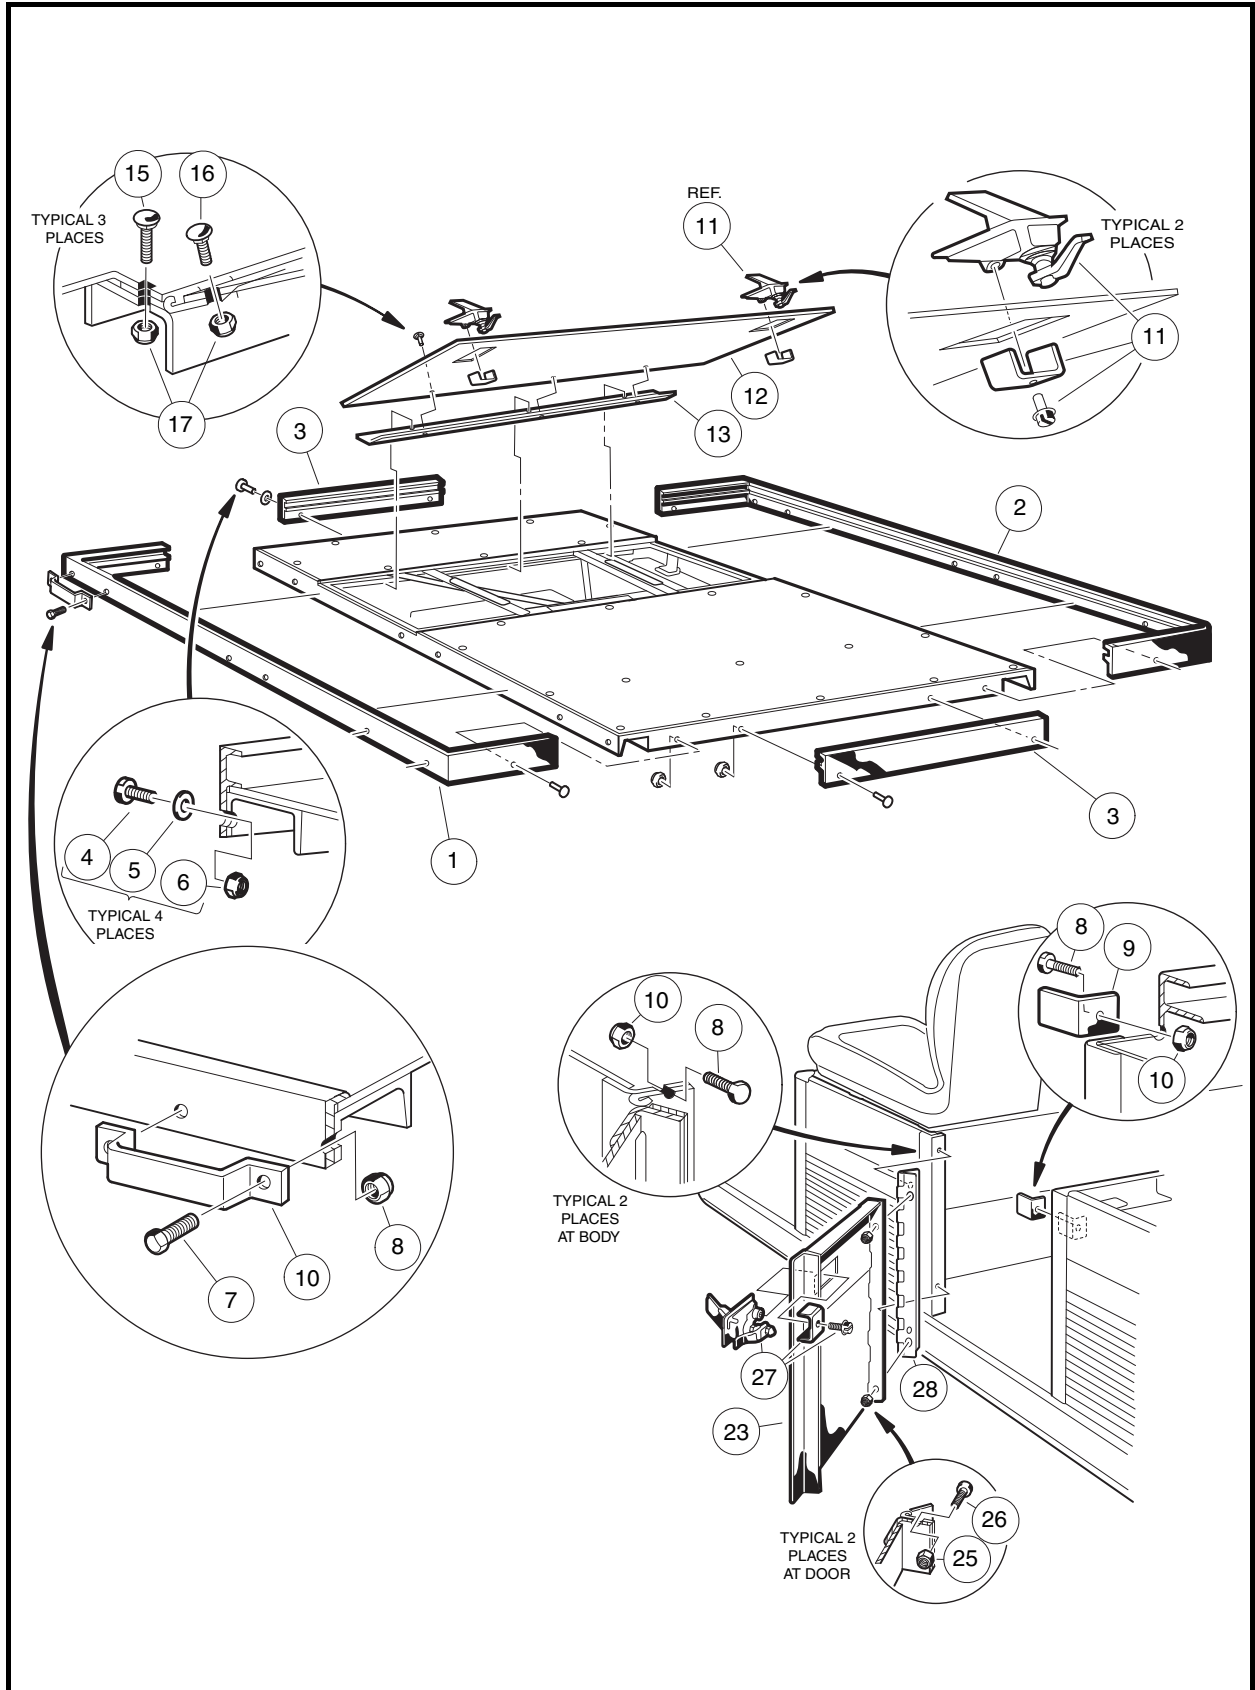

Figure 4-5 Flat Bed Trim, Access Door, and Side Door – Turf 6 and Carryall 6 (with Side Doors)
1. Release access door latches (11) and open access door (12) (**Figure 4-5, Page 4-11**).
4. Remove four bolts (4), flat washers (5), and lock nuts (6) from trim strips (3) on front and rear edge of bed. Remove trim strips from bed.
5. Remove two bolts (7) and lock nuts (8) from the bracket (10) on driver-side trim strip (1). Remove bracket from bed.
2. Tighten bolts (4 and 7) to 8 ft-lb. (10.8 N·m) (**Figure 4-5, Page 4-11**).
1. Raise levers on left and right hand door latches (11), rotate them 180 degrees and open access door. Rest door against seat back support panel (**Figure 4-5, Page 4-11**).
2. Remove three lock nuts (17) and bolts (16) from access door side of hinge.
1. Install access door in the reverse order of removal (**Figure 4-5, Page 4-11**).
2. Tighten nuts (17) to 8 ft-lb (10.8 N·m).
3. Close access door and secure both door latches (11).
1. Lift door latch lever (27), rotate 180 degrees, and open side door (**Figure 4-5, Page 4-11**).
2. Remove two 1/4 x 5/8 bolts (26) and lock nuts (25) from door hinge.